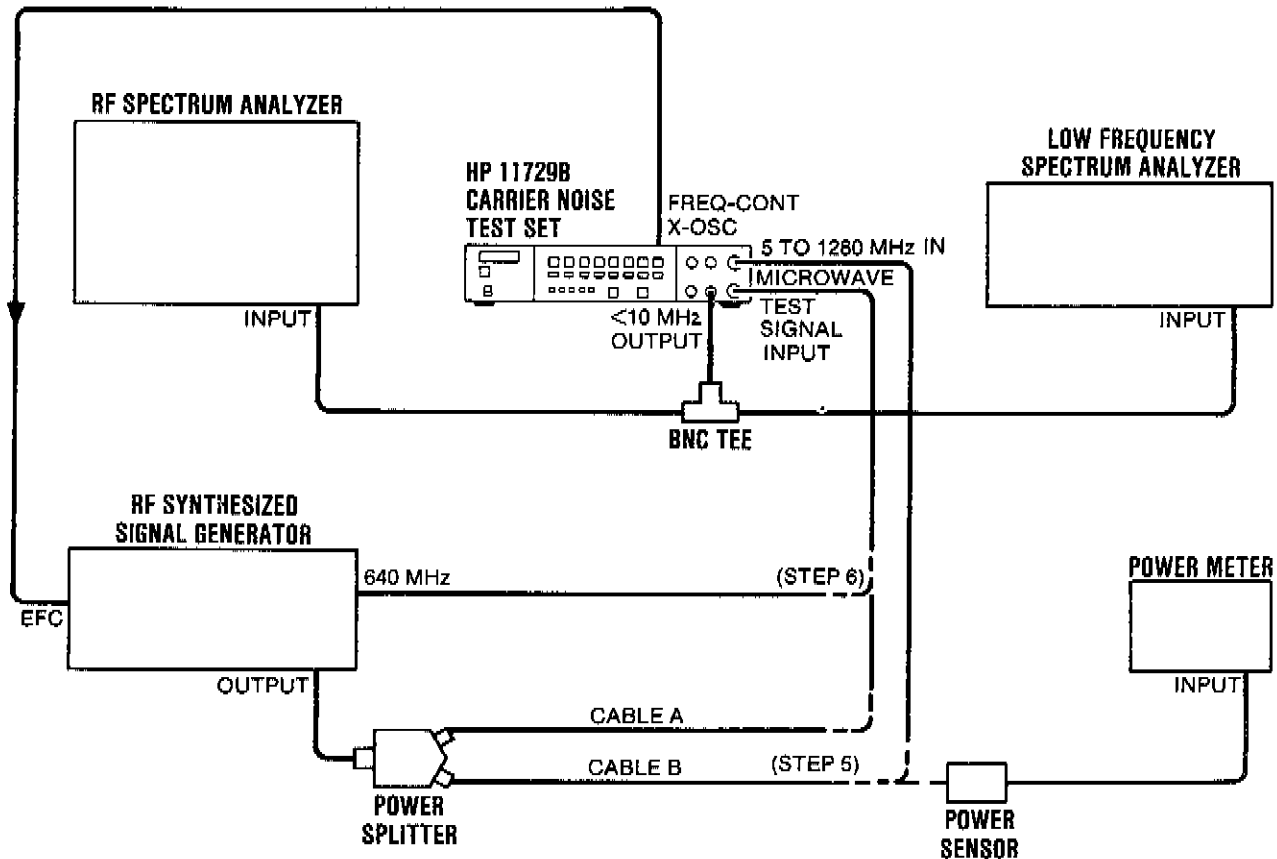

Figure 4-2. Residual Phase Noise Test Setup (Using a test signal of less than 1280 MHz)
*The specified lengths of cable A and cable B in Figure 4-2 are critical for obtaining phase quadrature.*
1. Connect the instruments as shown in Figure 4-2.